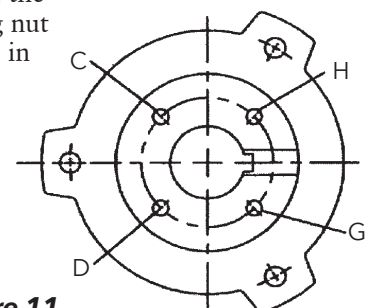

Figure 11
Assemble Tension Plate Assembly as shown in Figure 11.
NOTE: Shaft adjustment up or down is accomplished by turning the adjusting nut (604) Figure 11.
NOTE: There are five holes in the adjusting nut and only four in the motor coupling. See Figure 11.